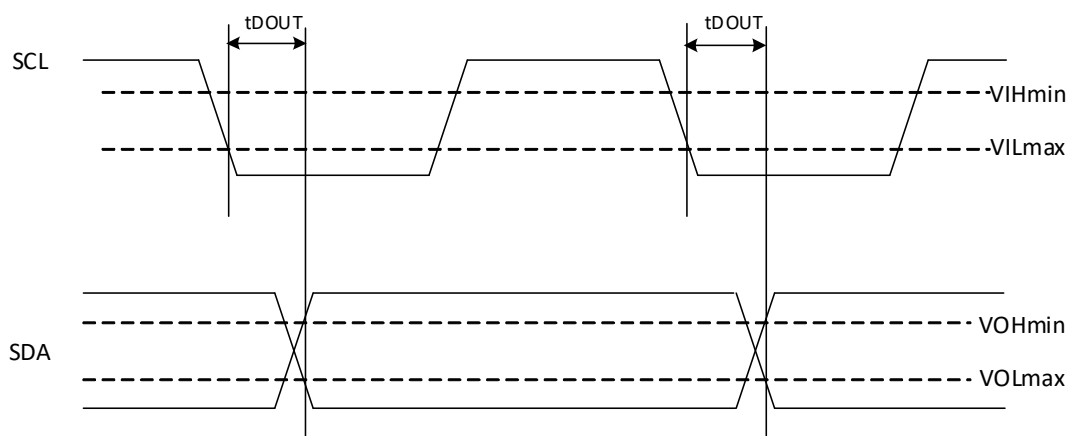
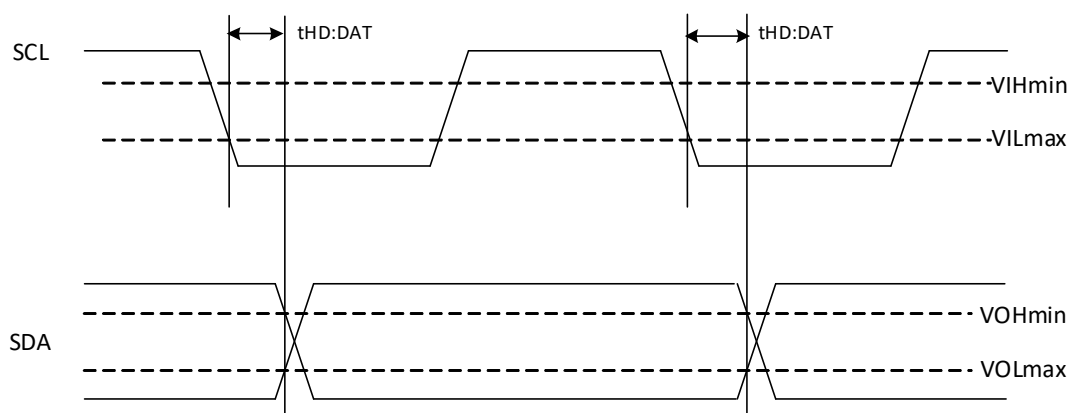

Figure 2 — I3C Basic Bus AC Data Output Timing Parameter Definition
Figure 3 — I2C Bus AC Data Output Timing Parameter Definition
- NOTE 6 The PMIC device guarantees  $t_{HD:DAT}$  value in I2C mode of operation. See Figure 3 for PMIC's output timing definitions as well as SCL clock input threshold level and SDA data output threshold levels.
- NOTE 7 The PMIC device must be configured in I3C Basic mode to guarantee  $t_{DOUT}$  or  $t_{DOFFT}$  or  $t_{DOFFC}$  value. See Figure 2 for PMIC's output timing definition as well as SCL clock input threshold level and SDA data output threshold levels.
The PMIC device follows the I2C or I3C Basic bus timing requirements. Figure 1, Figure 2, and Figure 3 show the timing diagram for Data bus Input and Data Output parameters.